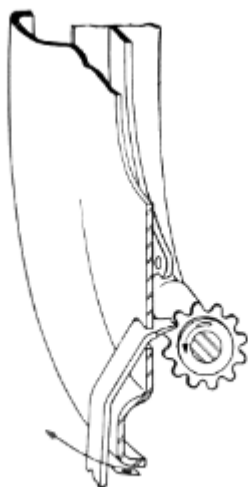

Figure 8
- (4) Spread the brake shoes by means of the notched adjusting screw (Figure 8) until the shoes are expanded against the brake drum so drum can just be turned by hand.